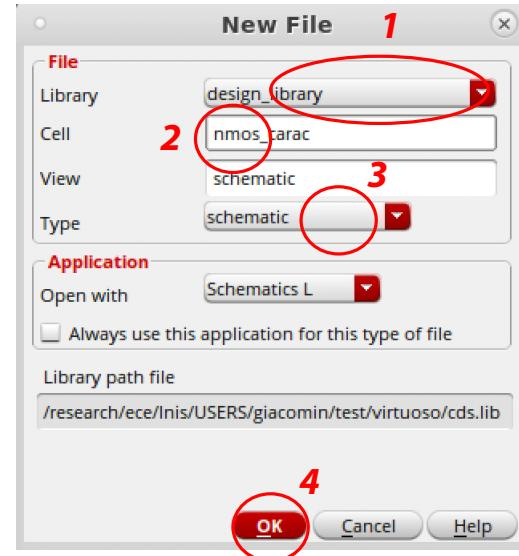

Figure 4: Creating a new cell.
1. Create a new cell for the *nmos* characterization (*File* -> *New* -> *Cellview...*). Verify that your design library is selected in the *Library* field. Specify the name of your cell in the *name* field (such as *nmos_carac*). For now, you will perform an electrical simulation through a schematic so choose the schematic type, as depicted in Fig. 4, and click OK.